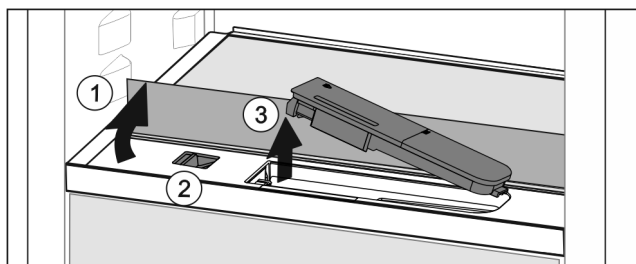

Fig. 150
- ▶ Lift the glass panel and fold to the back as far as it will go Fig. 150 (1).
- ▶ Slide the slider Fig. 150 (2) to the left.
- ▶ Remove the water tank Fig. 150 (3).